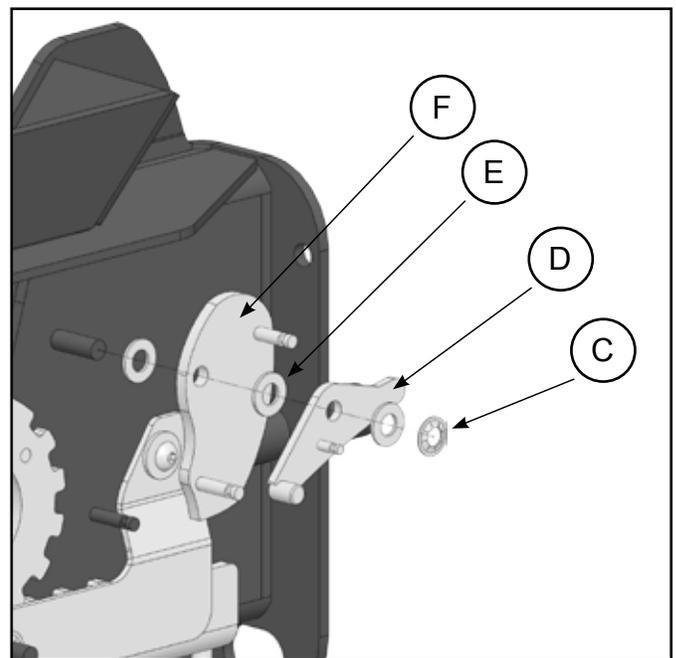

Figure 2
3. Break the Push Nut {C} from the top of the assembly and simply work your way down through each spring and lever, noting the order of assembly and position. For assistance, see Figure 2 below and reference the “Exploded View and Parts Identification” section.
4. Install the new Service Kit in the same manner, starting with Figure 2 and work in reverse, using the new parts you received.